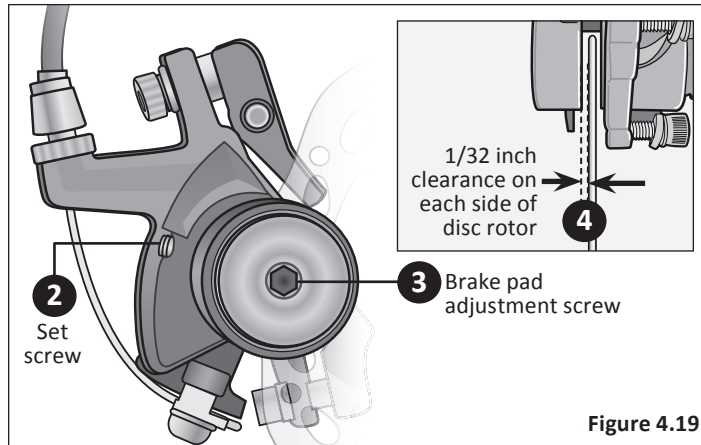

Figure 4.19
- 1 Insert a 1/32" spacer gage between the disc rotor and brake pad. **Figure 4.19**